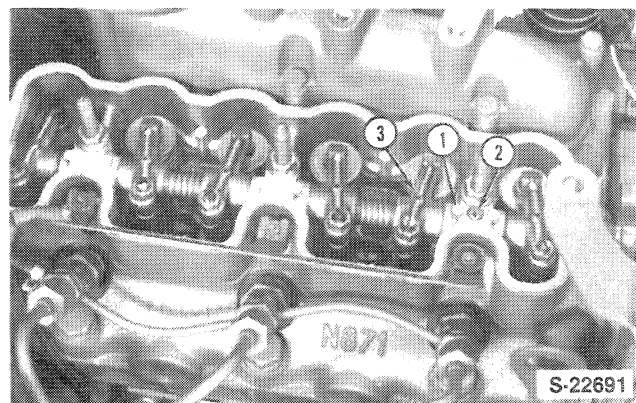

Figure 10
- 14. Remove the valve cover assembly, Figure 10.